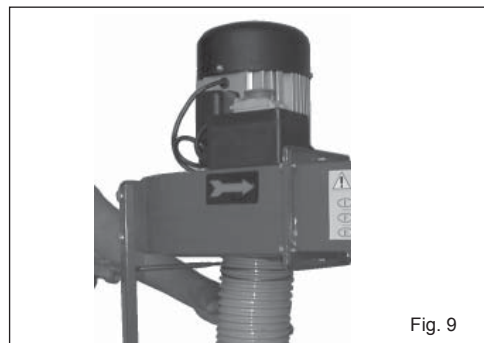

Fig. 9
7. Secure the flexible tube to the connector to mount to the escape at the outfeed of the suction fan (Fig. 9). Or disconnect this flexible tube and connect the wood machine's one using the appropriate flexible tube and the corresponding closing strap.